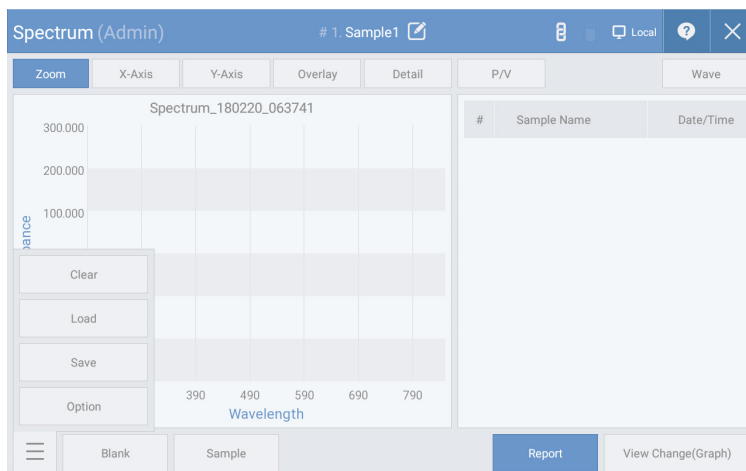

Fig. 3.8
1. Click the “Settings” button in [Fig. 3.8] to set the measurement environment.
2. Load the blank sample and click “Blank” shown in [Fig. 3.8] to measure the zero point.
4. Load the sample and click the “Sample” button shown in [Fig. 3.8] to begin measurement.